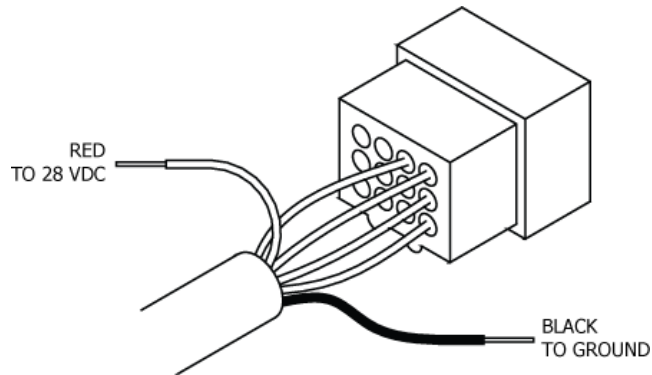

Figure 7 Molex Power and Ground Wires
- 7) Fabricate a power wire of sufficient length to reach from the red, un-terminated wire on the preassembled wire harness to a suitable aircraft +28VDC, switchable power source. See Figure 7 Molex Power and Ground Wires on page 23.